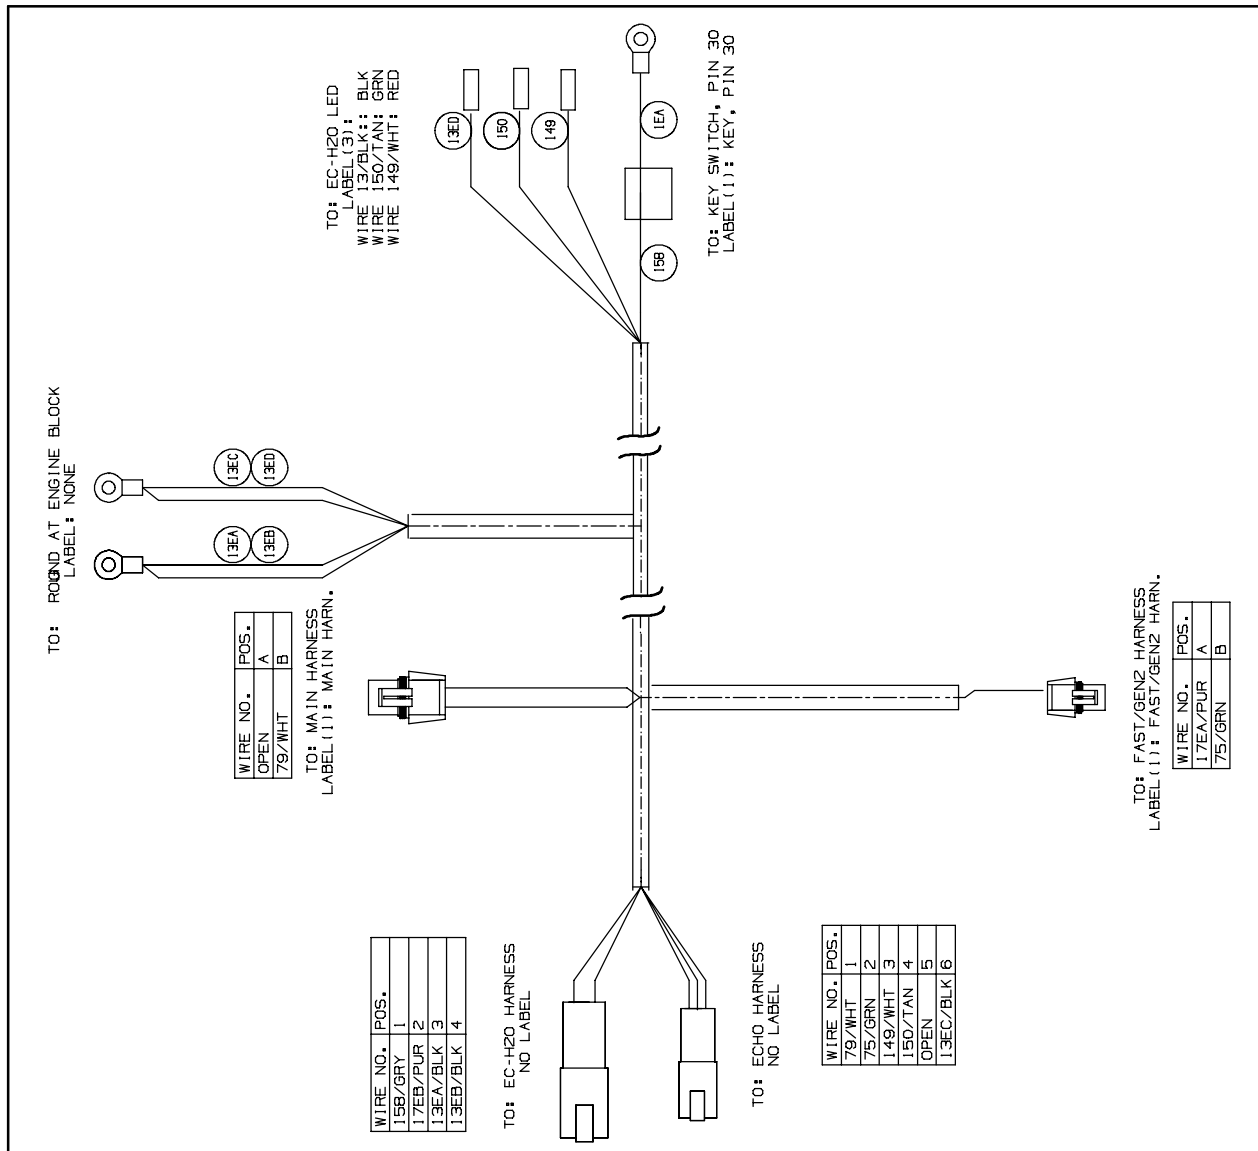

FIG. 16
55. Route the *ec-H20* harness ground lead to the engine ground and connect the ground lead to the engine ground. Refer to Fig. 16.
59. Slide the *ec-H20* harness ignition switch lead through the bottom of the boot and connect the ignition lead to the ignition switch PIN 30 terminal. Refer to Fig. 16.
62. Connect the *ec-H20* harness to the LED light. Refer to Fig. 16.
70. Connect the *ec-H20* harness to the *ec-H20* assembly. Refer to Fig. 16.